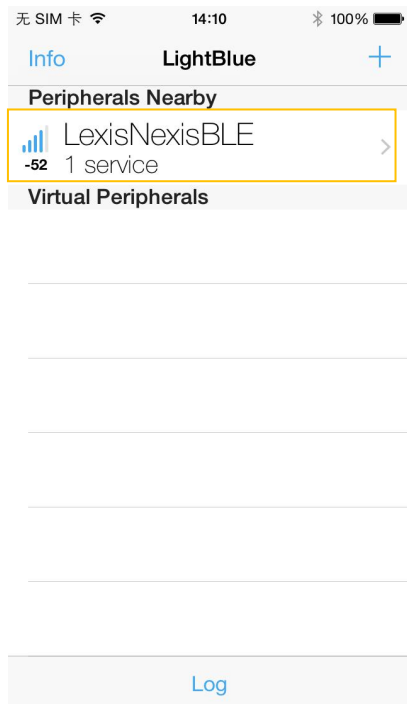
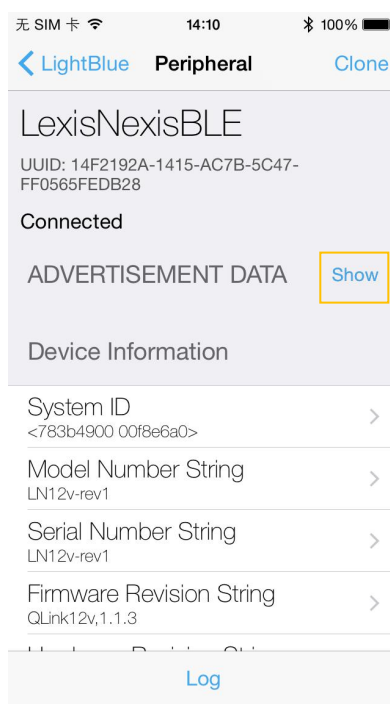
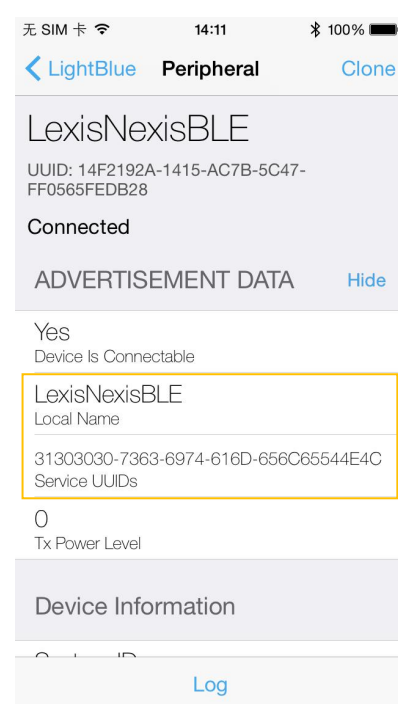

Figure 3
Figure 4
Figure 5
- Look at figure 3, click selected area to connect BLE. If connect successfully, it will be figure 4, at the same time LED are blue.
- Click "Show" in figure 4, there will display an UUID which you connected and local name. For example, please look at figure 5, there is Telematics Service UUID.